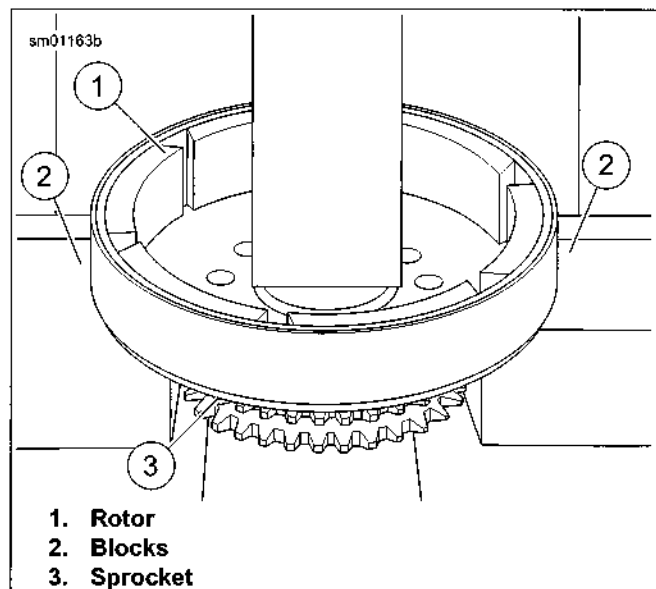

Figure 6-87. Removing Rotor from Sprocket
2. See Figure 6-87. Position blocks (2) under rotor (1). Press sprocket (3) free of rotor.